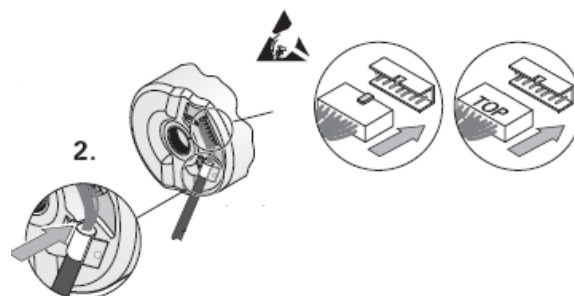

Figure 21: Reconnect encoder cable
2. Reconnect the encoder cable for the ECN1313 only. See Figure 21.